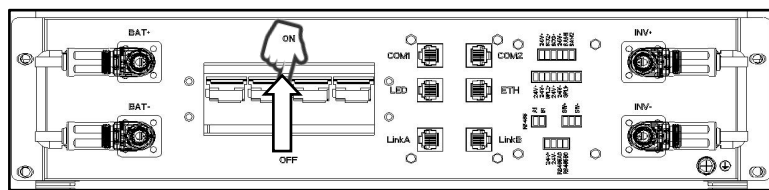

Figure 4.2.1
Step 1: Open the front door and place the main control box air switch in the open position in the direction indicated by the arrow in the figure below (Figure 4.2.1).